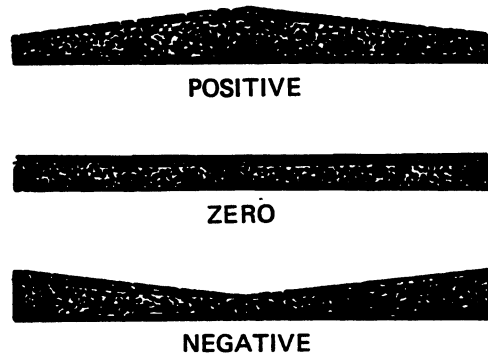

Figure 4-14 – Crown Shapes
8. Set crown control. The screed plate is a one-piece unit which is actually bent to provide the required crown setting. See Figure 4-14.